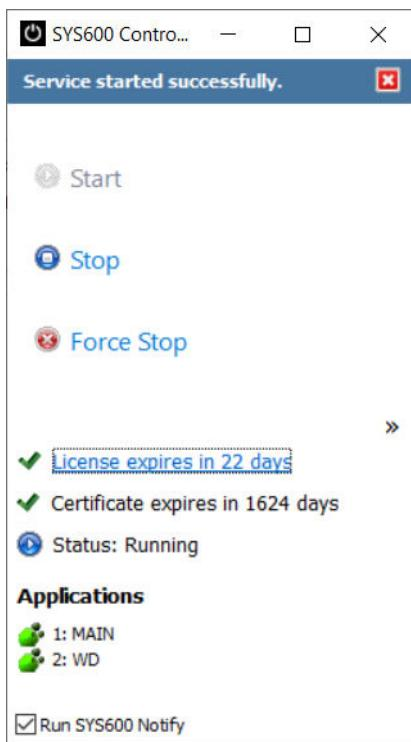

Figure 61: SYS600 Control Panel
3. The SYS600 Control Panel is displayed as shown in Figure 61.